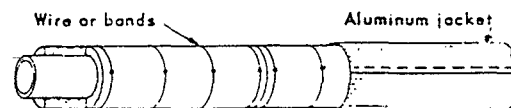

FIGURE 2
4.1 Each layer of insulation shall be applied to the pipe and secured with wire or bands as specified in Table 1. Wire shall be applied with at least four separate loops per section, twisted, bent, and hammered into the insulation. Bands shall be applied four per section of insulation, tightened and held with band seals. Wire or bands shall be located 1 inch from the ends of the section. See Figure 2.